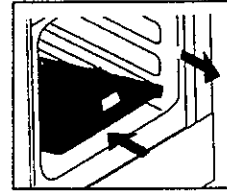

Fig. 17
- Remove the bottom panel of oven pushing it backwards, then lifting the front edge up and out as shown in Figure 17.